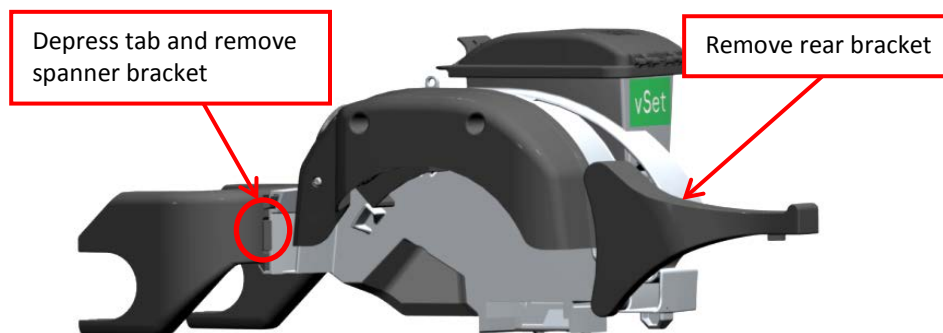

Figure 1 –Existing Hopper Bracket Removal
- a) Remove the existing spanner bracket by depressing the locking tab and sliding the bracket off the hopper. Remove the rear hopper bracket. Refer to figure 1.